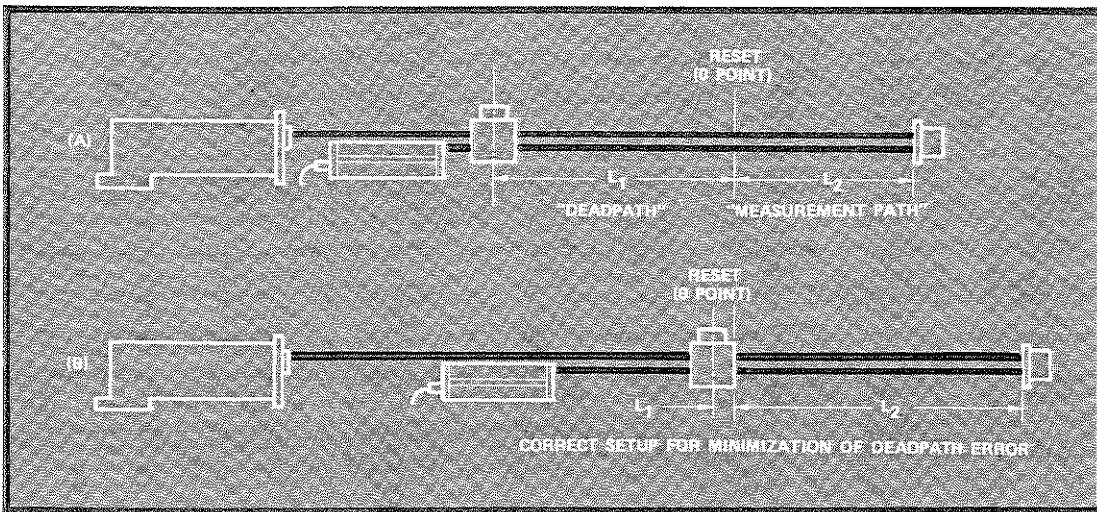

Figure 2-29. Deadpath Error Compensation
The previously defined relation ① is valid only if the air wavelength does not change during a measurement. If the air wavelength does change during a measurement, additional compensation must be made for deadpath error. In simple terms, deadpath error is an error introduced because of an uncompensated length of laser light between the interferometer and the retroreflector when the machine is at its θ position as defined by the machine coordinate system. In Figure 2-29, the deadpath area of the laser measurement path is the distance between the interferometer and the θ position of the machine (L_1). At this point the machine coordinate system indicates that the cube corner is at position L_2 . Assuming there is no motion between the interferometer and retroreflector but environmental conditions surrounding the laser beam change, then the wavelength changes over the entire path (L_1+L_2). Since relation ① contains the term "wavelengths of motion" which involves only the distance L_2 , it can make no correction for the wavelength change over L_1 and the interferometer causes a shift in the θ position of the machine coordinate system. This is known as deadpath error and occurs whenever environmental conditions change during a measurement.